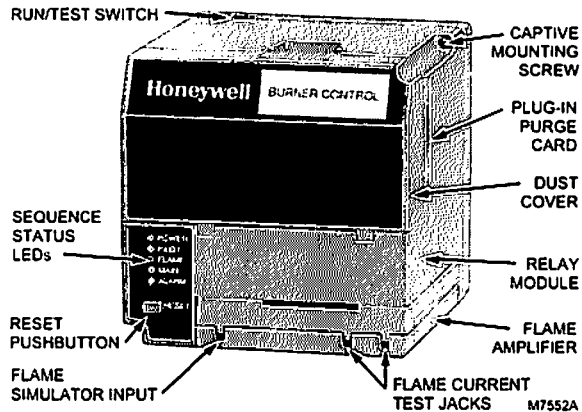

Fig. 1. Burner Control Module and sequence status LEDs.
- Five LEDs for sequence information. See Fig. 1.